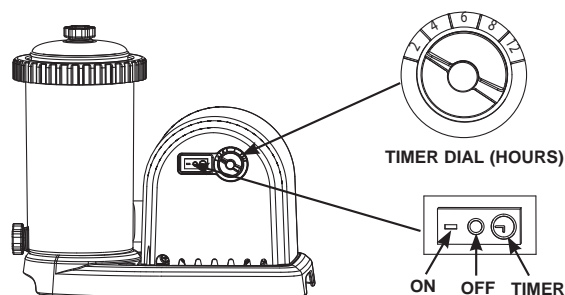

FIG 10
4. With water flowing into filter pump, the water pressure will allow the air trapped inside to escape from the air release valve (2). When all the air has escaped water will flow out of the valve (2). When this occurs gently finger tighten the valve (2) in a clockwise direction. **NOTE:** The plunger valve is equipped with a vacuum release valve that will automatically activate to minimize the suction at the pool outlet if the outlet is blocked. This is an additional safety feature to prevent suction entrapment. The vacuum release valve will reset once the blockage is removed and the pump is switched off. To restart the system the air must be removed from the filter pump per previous step.
- A. Set the timer dial to the desired operating hours. See operation time table. See Fig. 10